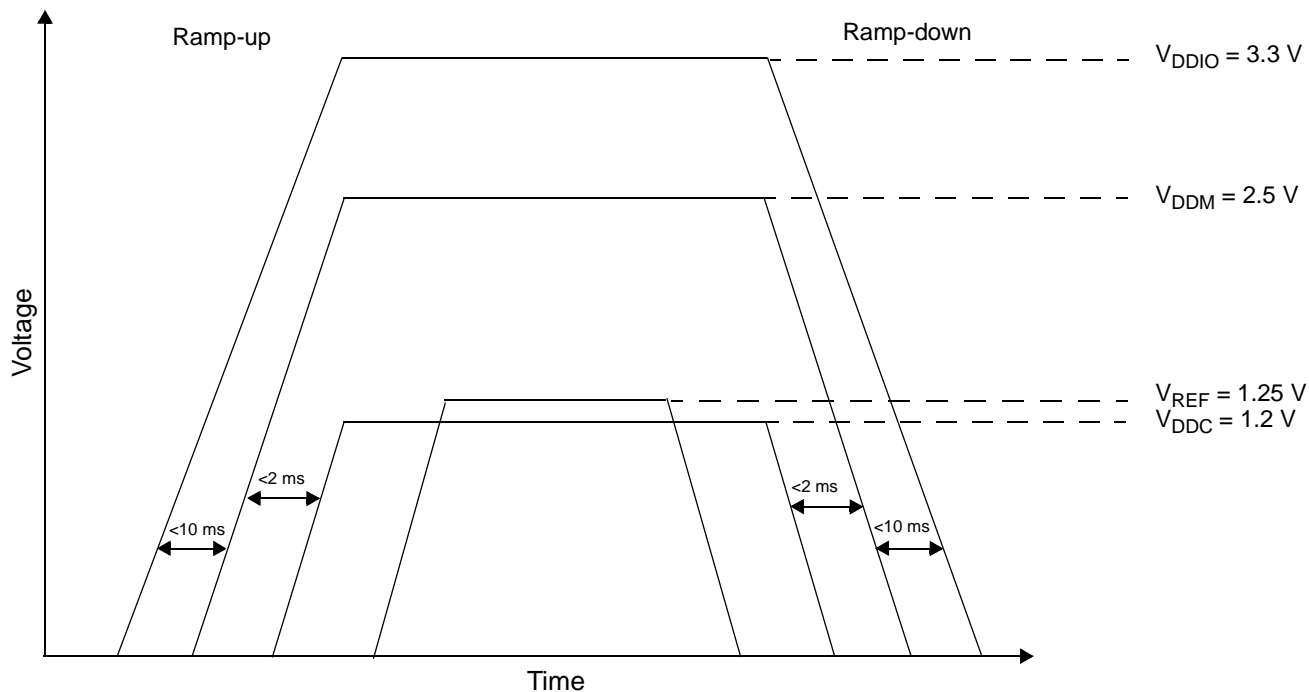

Figure 30. Voltage Sequencing Case 5
- Refer to **Figure 30** for relative timing for power sequencing case 5.